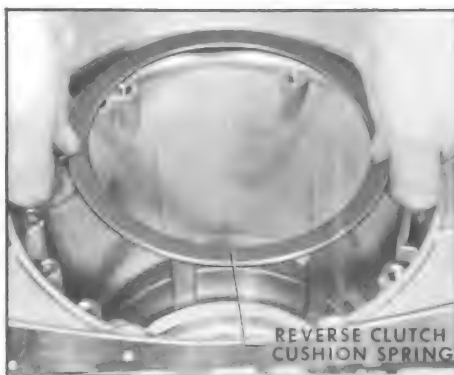

Figure 5-301
7. Install reverse clutch cushion spring. Install the cushion spring with the dish down. See Figure 5-301.